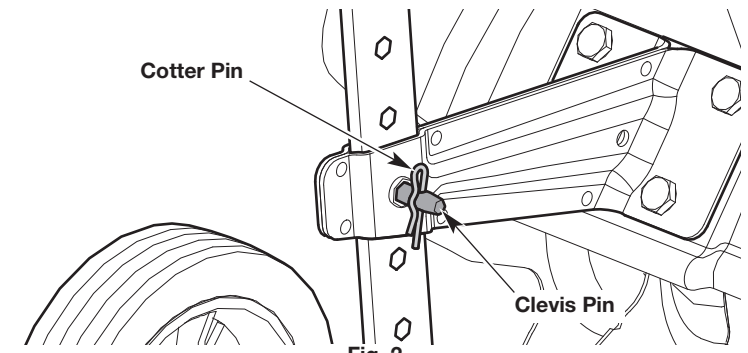

Fig. 2
3. Insert the clevis pin through the aligned holes (Fig. 2).
4. Insert the cotter pin into the clevis pin (Fig. 2).
1. Remove the cotter pin from the clevis pin (Fig. 2).
2. Remove the clevis pin from the wheel bracket and wheel assembly (Fig. 2).
4. Insert the clevis pin through the aligned holes (Fig. 2).
5. Insert the cotter pin into the clevis pin (Fig. 2).